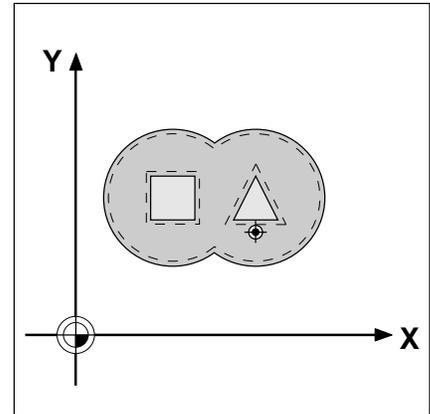

Fig. 8.39: Possible infeed point for PILOT DRILLING
- First the island contours (C/D in Fig. 8.39) are rough-milled until the pocket contour (A/B) is approached.